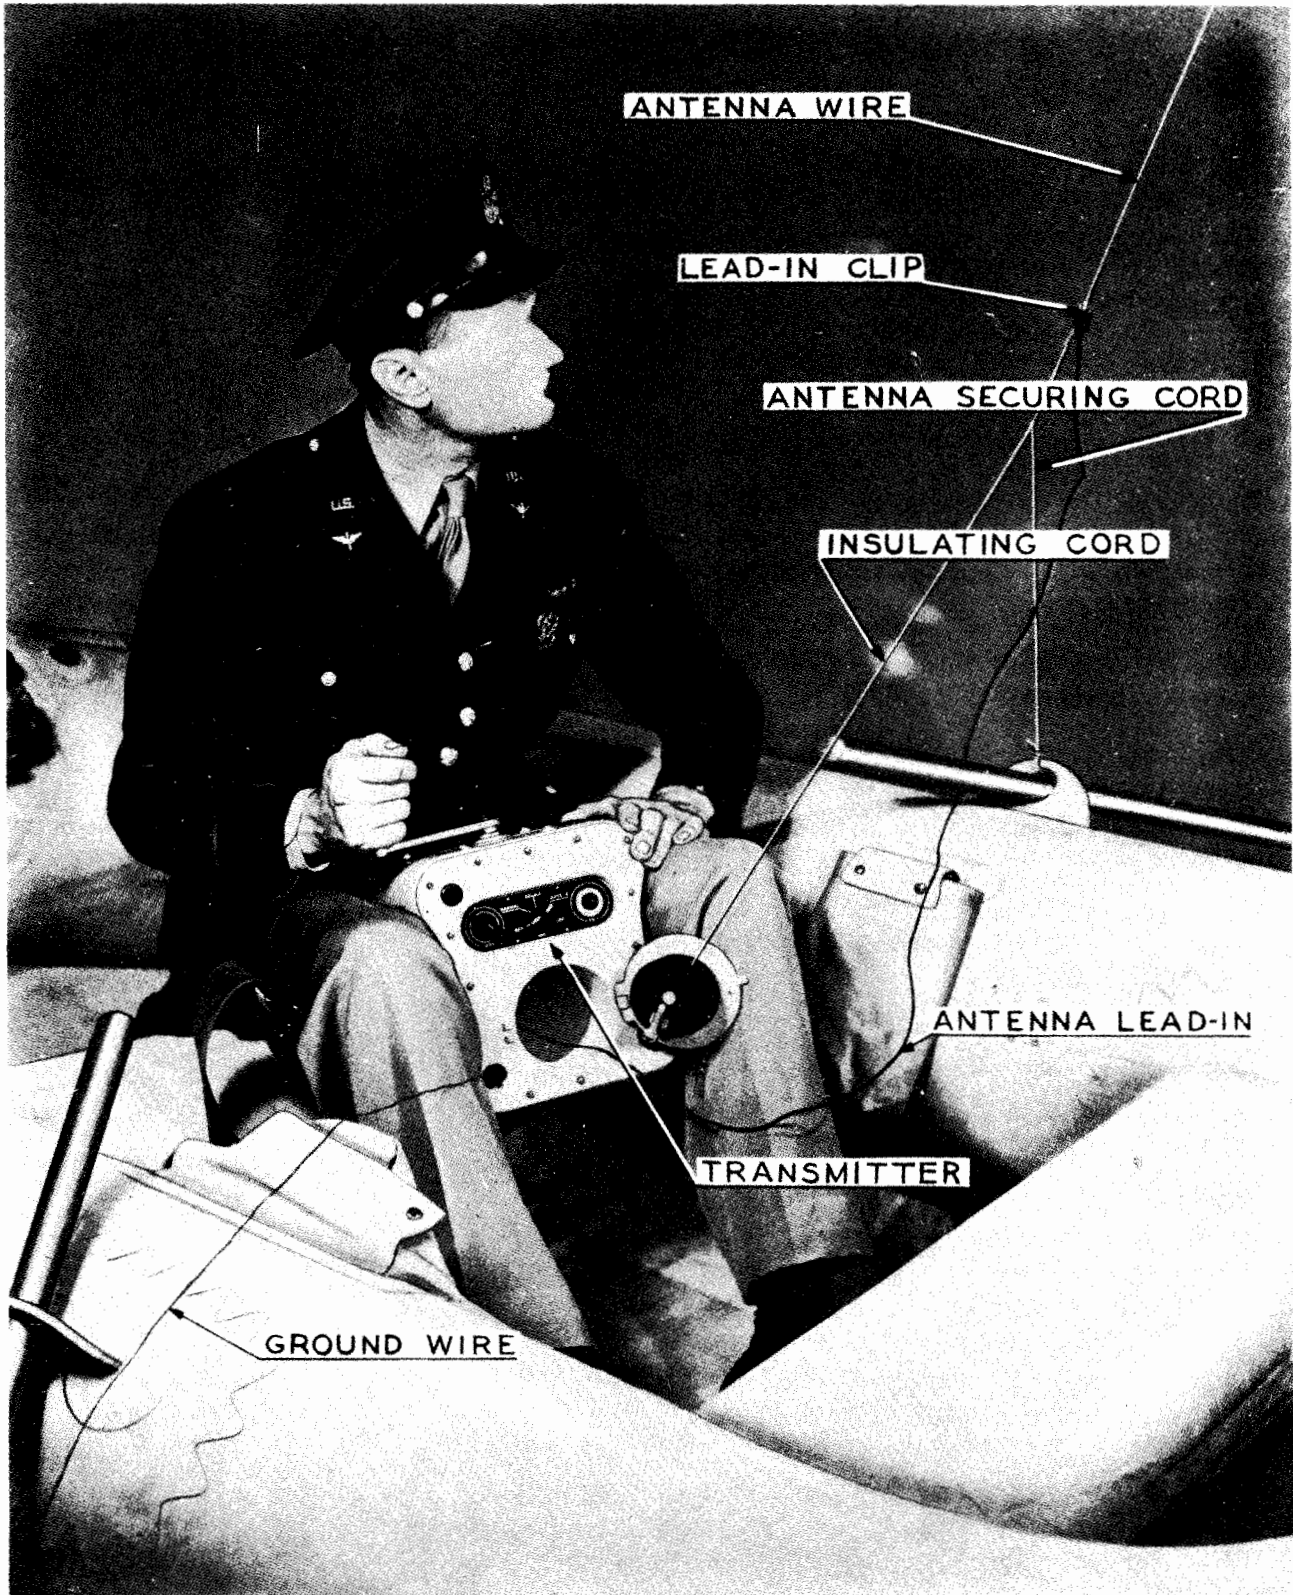

Figure 20—Radio Transmitter BC-778-E in Operating Position
than 175 ft. long while transmitting. Next, attach the antenna-securing cord to the life raft and **AFFIX THE ANTENNA LEAD-IN FROM THE TRANSMITTER ONTO THE ANTENNA** (see fig. 20). Never permit the antenna to drag in the water while
i. With the antenna affixed to the balloon, release the BRAKE, allowing the balloon to pull out ALL the wire on the reel. Attach the antenna-securing cord to the life raft and affix the antenna lead-in from the transmitter onto the antenna (see fig. 20). If a wind rises while using the balloon, it may be desirable to employ the kite. In general, the change from balloon to kite should be made when the wind rises above 20 mph. The balloon can be made captive to the raft by using part of the extra roll of antenna wire. The captive balloon should always be high enough to avoid striking objects that might cause it to burst, or to interfere with the antenna.